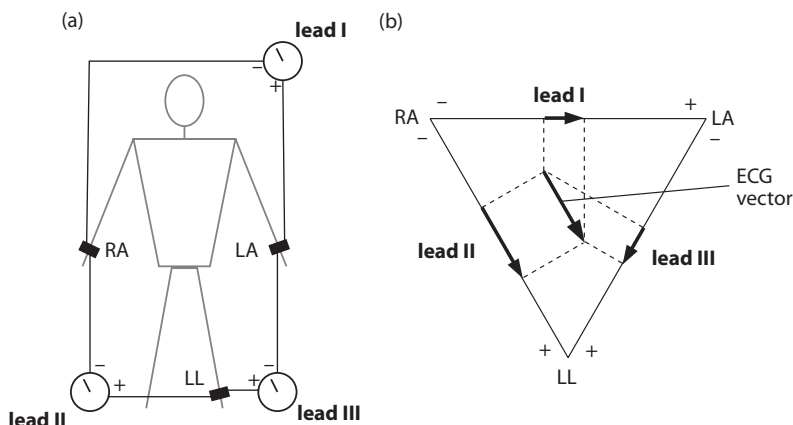

Figure 21.7. (a) Bipolar leads. (b) Einthoven's triangle.
Electrodes placed near the right arm, left arm and left foot make up an arrangement known as Einthoven's triangle. This arrangement, by creating circuits between them, delivers three potential differences that are called **leads I, II and III** (see *Figure 21.7*). ECG measurement uses a naming convention largely established by Einthoven, which is historic rather than intuitive.
word 'lead' originally referred to the physical leads or wires; now the term is used to describe the measurement itself. Lead I measures the potential difference between the right arm (RA) and left arm (LA). By convention, positive deflection is recorded if LA is positive compared to RA. Lead II is between RA and the left leg (LL), while lead III is between LA and LL (LL is taken as positive for leads II and III). Each lead thus gives a different 'view' of the ECG vector. When the three views are all noted together, the direction of the ECG vector may be determined from the relative sizes (**scalars**) of the lead I-III signals as shown in *Figure 21.7*.